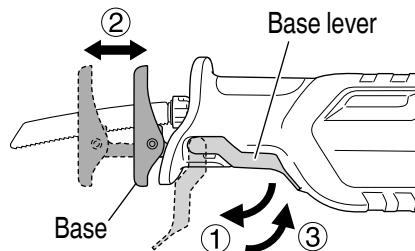

Fig. 11
- (1) Turn off the switch and remove the battery.
- (2) Pivot the base lever clockwise; and slide the base to the desired position. There are five positions that the base can be adjusted to.
- (3) Pivot the base lever counterclockwise to secure the base. (Fig. 11)
- (4) Make sure that the base is not interfering with the blade.